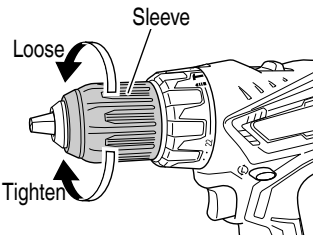

Fig. 9
- (1) After inserting a driver bit, etc. into the keyless drill chuck, firmly tighten the sleeve by turning it toward the right (in the clockwise direction as viewed from the front) (See Fig. 9).